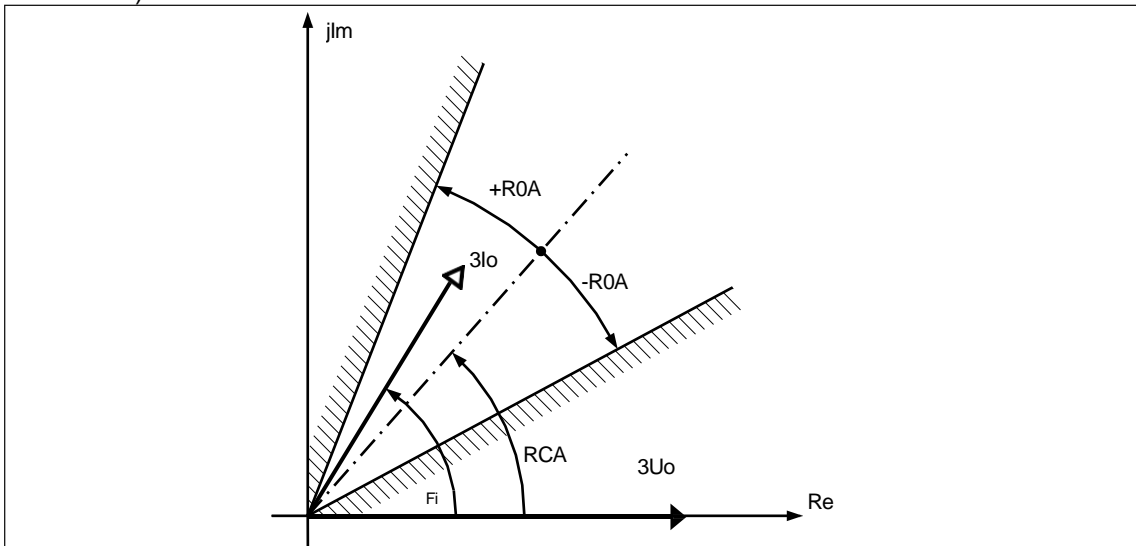

Figure 1-1 The directional decision
- the vector of the residual current is on the complex plane within the area defined by the characteristic angle (RCA) and the operating angle (ROA) (See *Figure 1-1*) and
Note: the position of the vectors in *Figure 1-1* indicates a forward fault, i.e., the location of the earth fault is on the protected line (the positive direction of the current is from the busbar to the line).